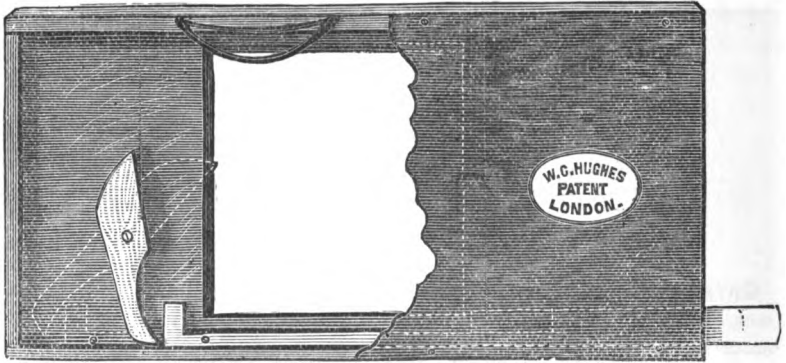

Fig. 52.
**Self-Centreing Carrier** (Fig. 52) has the advantage of being stationary in the lantern, and when once placed so that it occupies centre of condenser need not again be moved, a slide of any reasonable size, from English  $3\frac{1}{4}$  to American  $3\frac{3}{4}$ , can be placed on the brass runner, and is pushed home against a lever which centres it exactly in the frame, whatever be the size